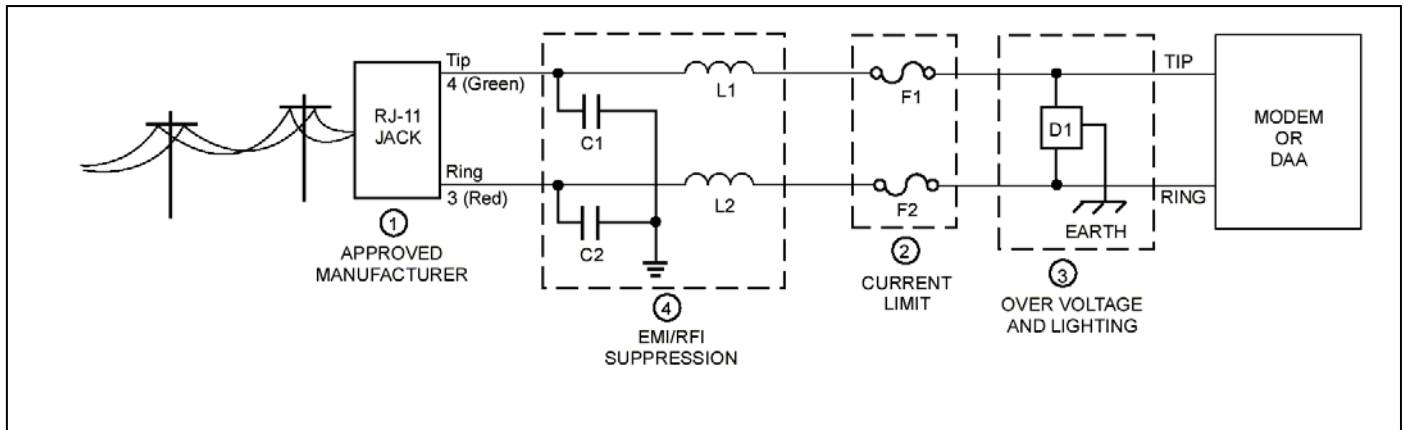

Figure 3. Telephone Line Interface.
7. The CH1817 DAA as is meets or exceeds the hazardous voltage, surge and leakage requirements of the FCC. For applications that connect to Canadian phone lines, governed by the DOC (Department of Communications) and to further protect the CH1817 from field failure on excessively poor quality lines and to maintain UL recognition, a higher level of transient protection is required, thereby making mandatory the circuit consisting of two fuses and one varistor as shown in Figure 3. Adding these three devices will not affect FCC registration. Components L1, L2, C1, C2 are optional and serve two purposes. First, they restrict high frequency signals from reaching the phone line and thereby add EMI protection. Second, they protect against externally generated RFI from degrading the modem's ability to operate on proper carrier signals. Adding these devices will not affect FCC, DOC, or UL registration.